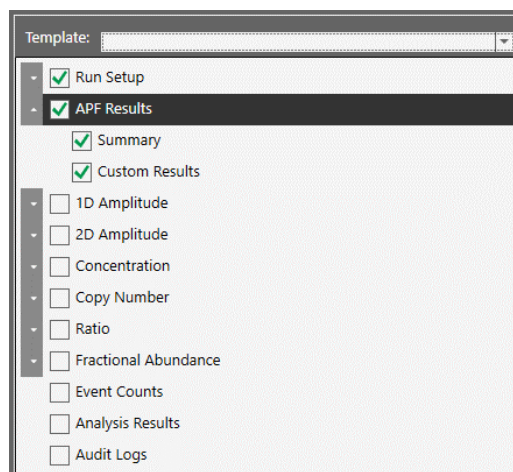

Fig. 11. On the Reports tab, ensure APF Results is checked prior to generating the report.
5. To export a report, navigate to the Reports tab, ensure APF Results is checked to be included in the report (Figure 11), and click Generate Report. The Result Summary Table will be exported as part of the report.